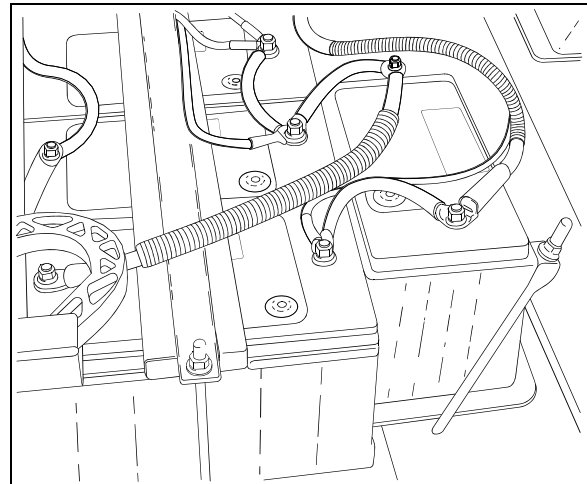

FIGURE 24: BATTERIES (TYPICAL) 06343
The vehicle is provided with four (4) maintenance-free 12 volt heavy-duty batteries connected in series-parallel (Fig. 24). The top-mounted negative and positive terminals are tightly sealed to prevent leaks. Water never needs to be added to this type of battery. There are no filler caps in the cover. The battery is sealed, except for small vent holes in the cover. The vents must not be restricted as they allow small amounts of gases produced in the battery to escape. The special chemical composition inside the battery reduces gassing to a very small amount at normal charging voltages. Besides reducing gassing, the special chemistry greatly reduces the possibility of overcharge damage.